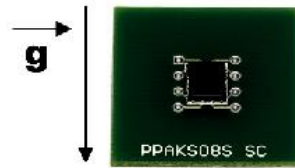

Figure 33.
Infinite Environment: This tab covers convection definitions (refer to Figure 33).
- **Z gravity** for a PCB with the component on the top side (see the interactive picture on the right side in Figure 33).